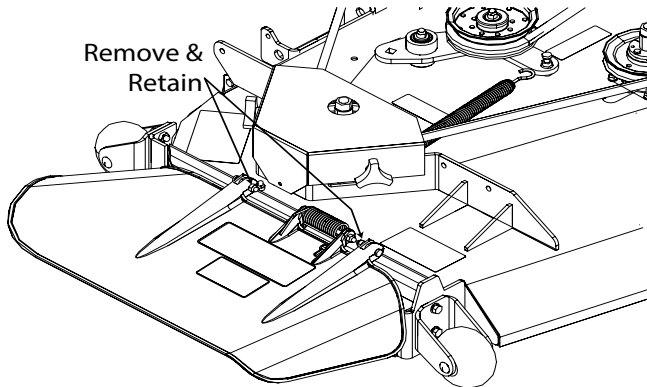

Figure 3-9. Removing the Discharge Chute
1. Remove the discharge chute from the machine. See Figure 3-9.
5. Install the rear hinge bracket to the cutter deck using one (1) 5/16-18 x 1" bolt, one (1) 5/16" flatwasher and one (1) 5/16-18 elastic stop nut. Do not tighten the hardware. See Figure 3-9.
14. Install the front hinge bracket to the cutter deck using two (2) 5/16-18 x 3/4" bolts and two (2) 5/16-18 elastic stop nuts. See Figure 3-9, page 9. Do not tighten the hardware.